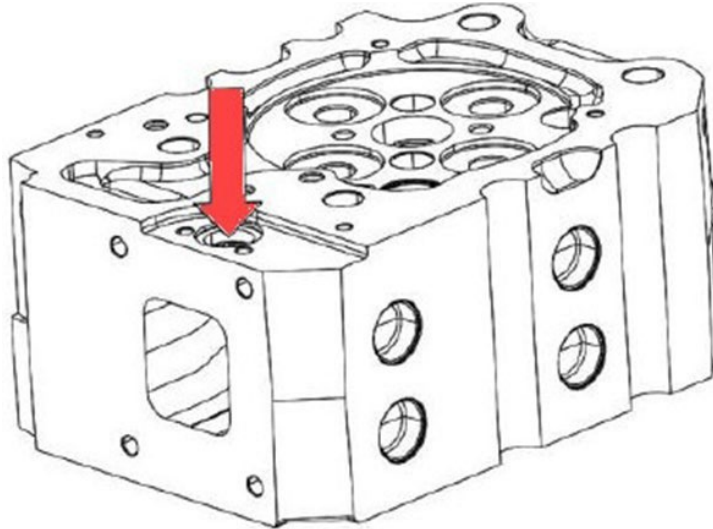

Figure 69. Cylinder Head Outlet
2. Connect an air inlet onto the water outlet of the cylinder head. Immerse the cylinder head in a tank of water and increase pressure up to 73 PSI or 5 bar (Figure 69).